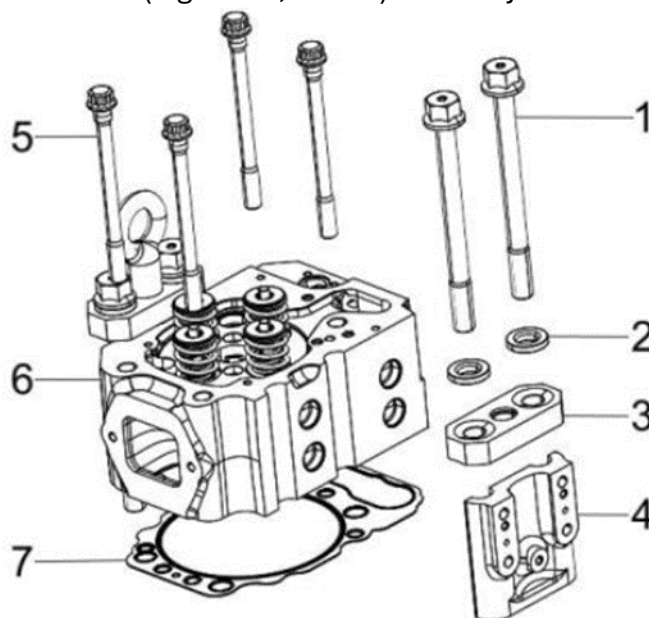

Figure 82. Cylinder Head Assembly
1. Carefully clean both the combustion surface of the cylinder head and the top surface of the cylinder block. Then place a new cylinder head gasket (Figure 82, item 7) on the cylinder block.
3. Lightly oil the threads and shoulder of the cylinder head main bolts (Figure 82, item 5) and cylinder head secondary bolts (Figure 82, item 1). Lightly oil the clamping block (Figure 82, item 3) and end plate (Figure 82, item 4).